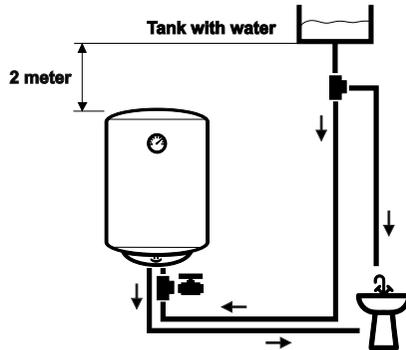

Fig. 2 Connection scheme to open tank filled with water
- 6.2.8. Connection to open tank filled with water (Fig. 2). Water is supplied to the water heater from the tank by gravity. Safety valve is not necessary in this type of connection.